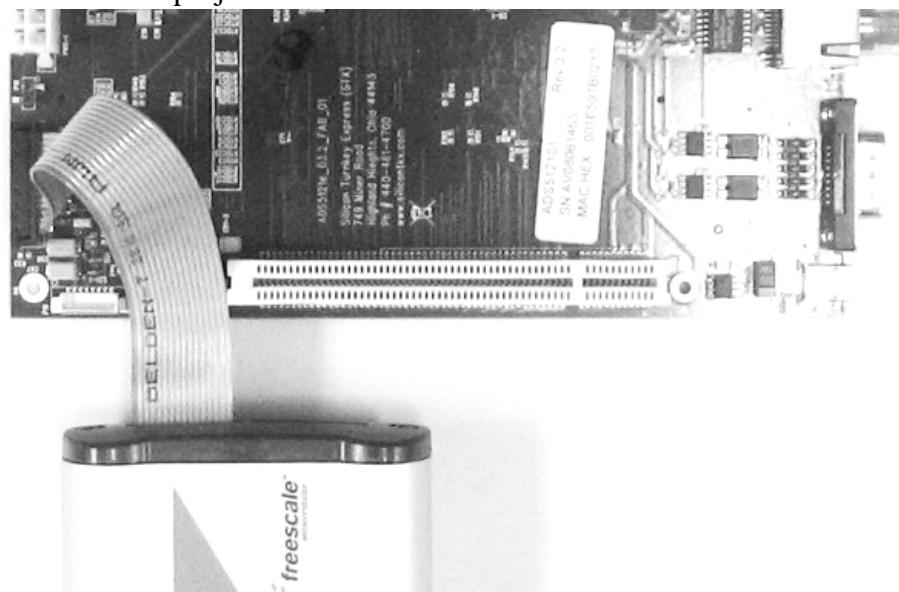

Figure 4. Connection of the JTAG Connector and ADS5121 Rev. 3.2 Board
1. Connect the JTAG connector to the ADS board. See Figure 4. Pay attention to the orientation of the JTAG connection. The way to connect the board might vary slightly due to different board revisions. Check the general board description to find the JTAG on your board.